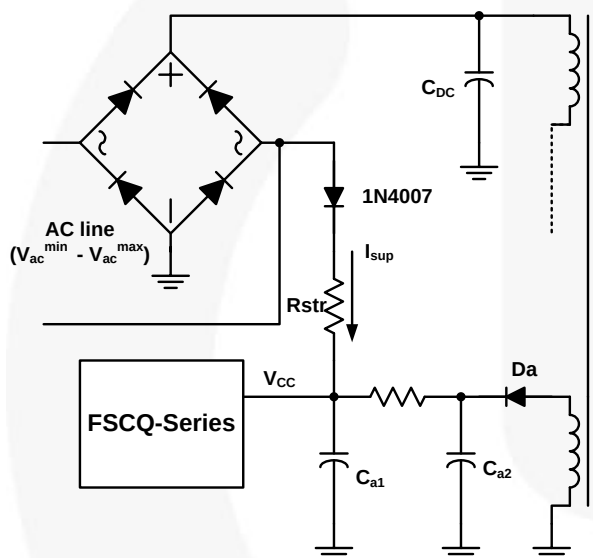
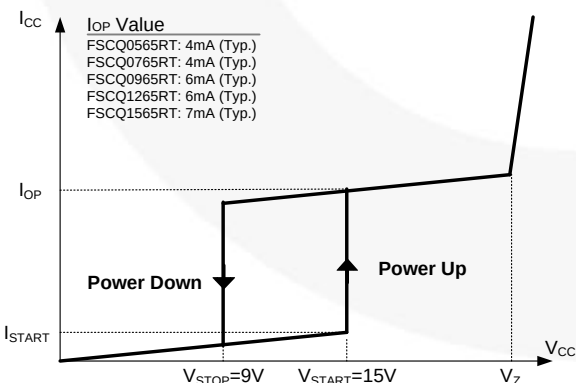

Figure 25. Startup Circuit
Figure 26. Relationship between Operating Supply Current and V_{CC} Voltage
1. Startup: Figure 25 shows the typical startup circuit and the transformer auxiliary winding for the FSCQ series. Before the FSCQ series begins switching, it consumes only startup current (typically 25 μA). The current supplied from the AC line charges the external capacitor (C_{a1}) that is connected to the V_{CC} pin. When V_{CC} reaches the start voltage of 15 V (V_{START}), the FSCQ series begins switching and its current consumption increases to I_{OP} . Then, the FSCQ series continues normal switching operation and the power required is supplied from the transformer auxiliary winding, unless V_{CC} drops below the stop voltage of 9 V (V_{STOP}). To guarantee stable operation of the control IC, V_{CC} has under-voltage lockout (UVLO) with 6 V hysteresis. Figure 26 shows the relationship between the operating supply current of the FSCQ series and the supply voltage (V_{CC}).